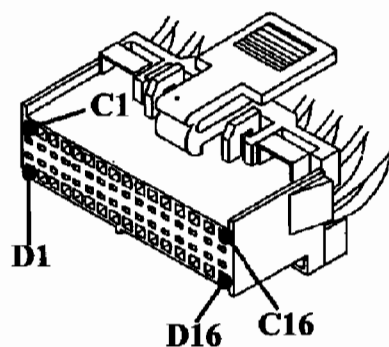
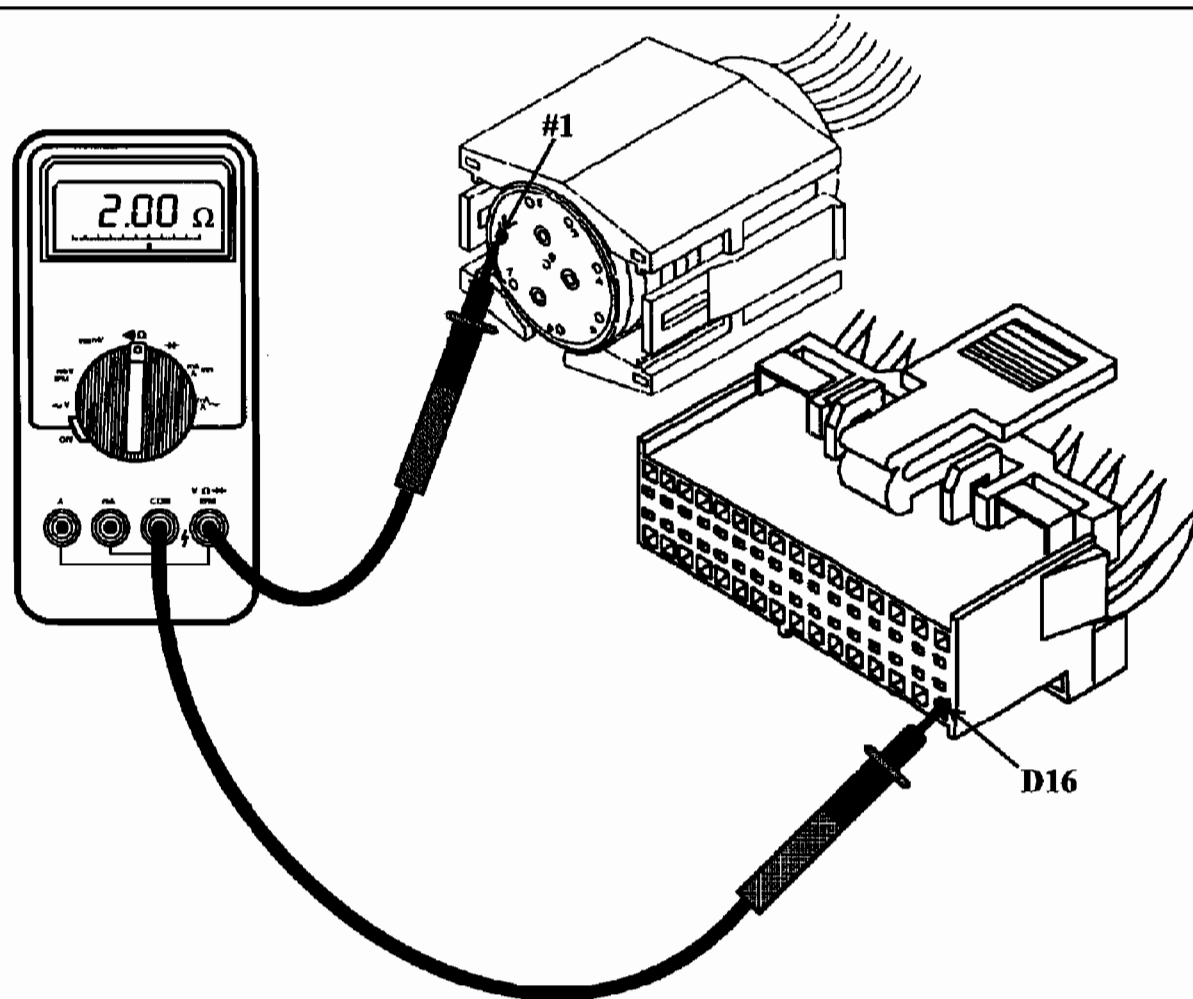

Figure 9
Figure 10
- (b) Locate pin cavity number D16 in the transmission control module connector, as shown in Figure 9. Perform a continuity test between cavity number D16 and pin cavity number 1 in the vehicle harness connector, as shown in Figure 10. There should be 5 ohms or less. If there is an open reading (Infinity), the wire is broken and will need to be repaired. If there is more than 5 ohms resistance observed, there is corrosion somewhere in the wiring, or a short to ground may have occurred, which means the wire will have to be replaced as well. If 5 ohms or less is seen, move on to the next step.